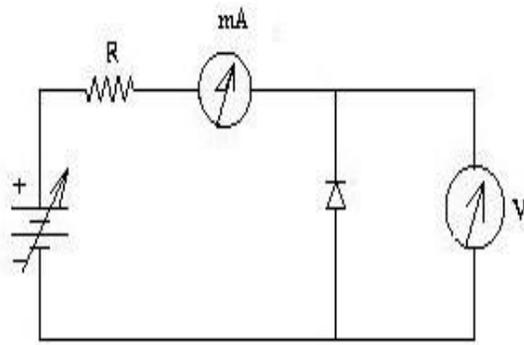

Figure 1 (Forward Biased)
1. Connections are made as shown in **Fig 1**.